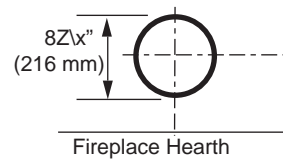

Figure 30 - Locate vent opening on wall
2. The center of the hole should line up with the center line of the horizontal rigid vent pipe end. Allow 1/4" minimum rise per foot. Figure 30